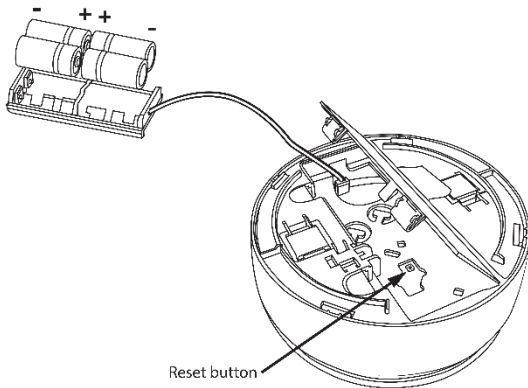

Figure 6
Pressing the reset button will reset the indoor sounder (*see Figure 6*).
3. Remove the battery holder and replace the old batteries with new ones while observing battery polarity (*see Figure 6*).